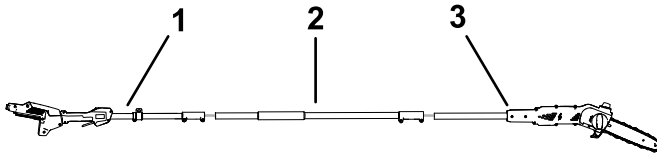

Figure 4
4. Repeat this procedure to connect the saw pole section to the middle pole section (Figure 4).